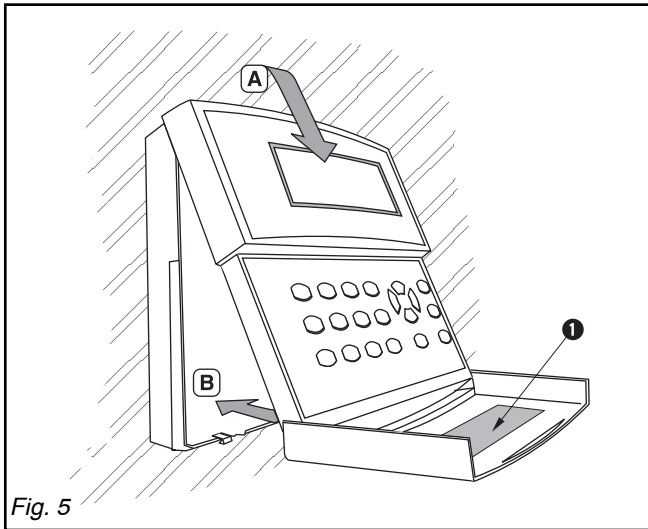

Fig. 5
5. Close and seal the housing (fig. 5)
- 1 - Engage the cover in the top retainer (A).
- 2 - Close the cover (B).
- 3 - Glue the information label ❶ inside of the lid.